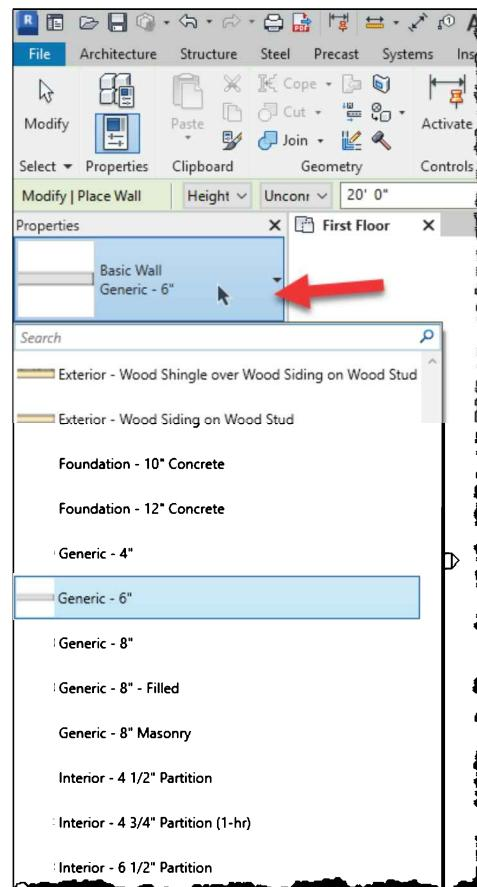

FIGURE 5-1.3 Preloaded wall types
7. Click the **Type Selector** down-arrow on the *Properties Palette* (Figure 5-1.3). When done looking at the wall types, press the **Esc** key three times to close the *Type Selector* and cancel the command.